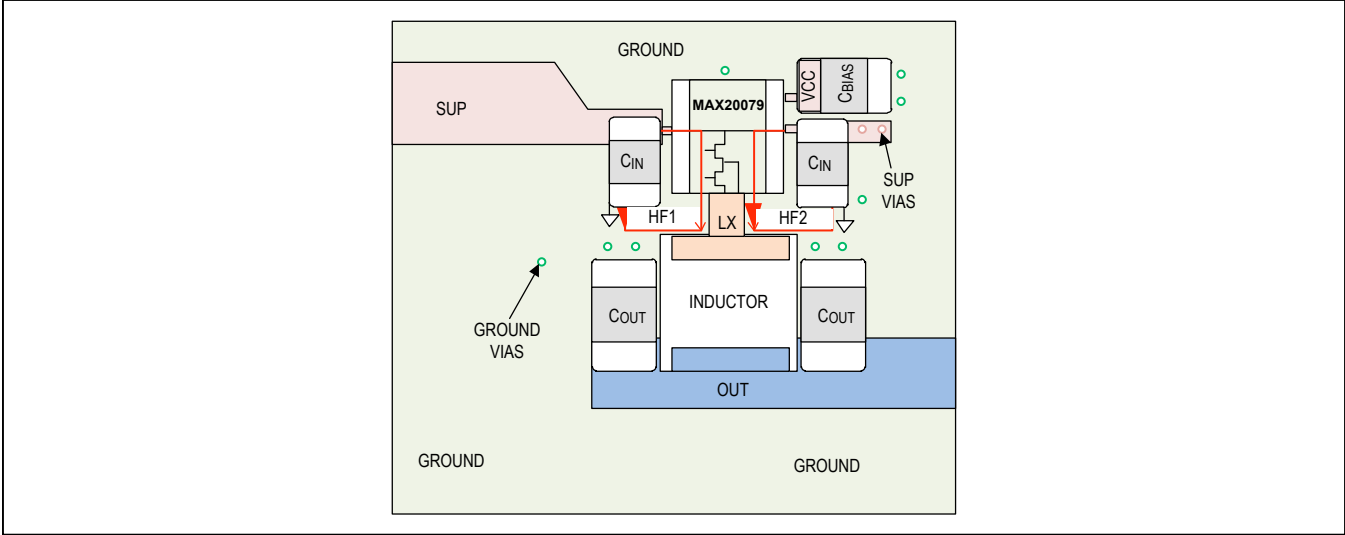

Figure 2. Recommended PCB Layout for MAX20079
- Place two high-frequency ceramic capacitors ( $C_{IN}$ ) on two SUP pins, on opposite sides of the IC and close to the device. High-frequency AC current flows on the loop formed by the input capacitor and the half-bridge MOSFETs internal to the device (see Figure 2). A small loop would reduce the radiating effect of high switching currents and improve EMI functionality. Two capacitors placed on opposite sides create current loops in the opposite direction, which cancels the magnetic field to reduce radiated EMI.